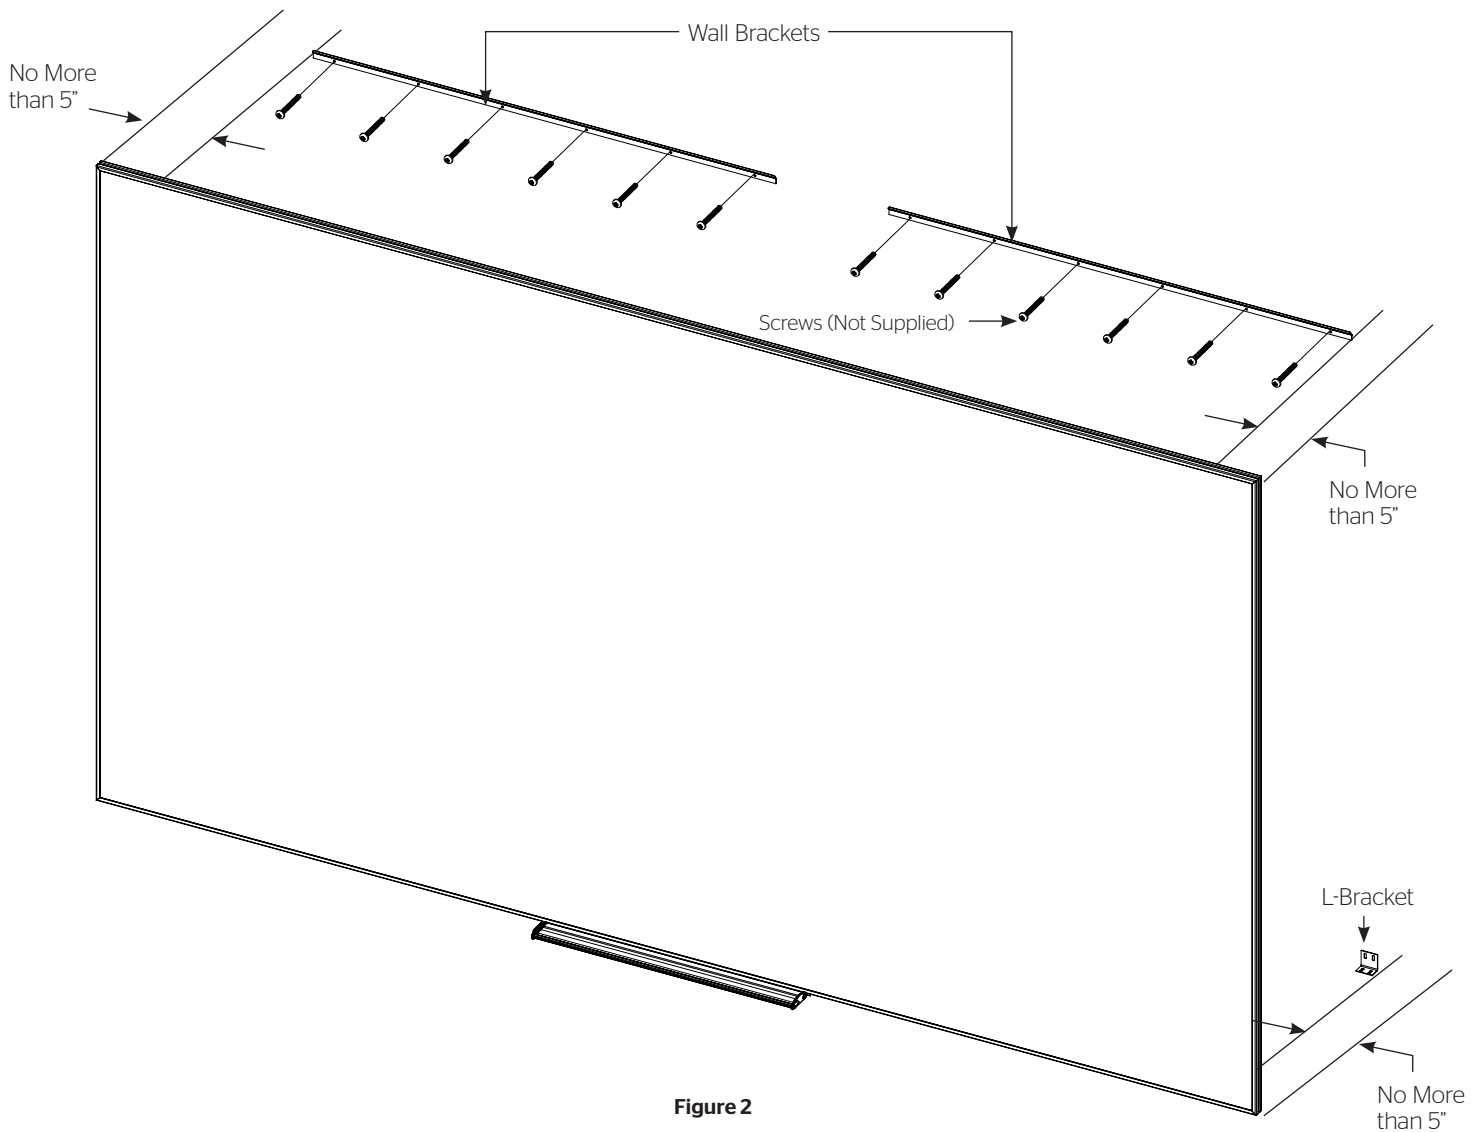

Figure 2
**NOTE:** The screen is shipped with two wall brackets. Screens in widths of 84 ¾" and below receive (2) 28" wall brackets. Screens above 84 ¾" in width receive (2) 44" wall brackets. Use appropriate mounting hardware for the wall type and to accommodate for the screen's hanging weight (Figure 2).
1. Secure the two wall brackets to wall studs at the desired height. The outside edge of each wall bracket must be no greater than 5" away from the left and right edges of the frame. You will need at least 1" clearance above the drilled holes to hang the screen (Figure 2).
2. To install the (2) L-brackets, you must measure the overall height of the screen frame and subtract 1½". Using that dimension, measure down from the top edge of the wall brackets and mark the wall for two screw holes. The outside edge of each L-bracket must be no greater than 5" away from the left and right edges of the screen frame (Figure 2).